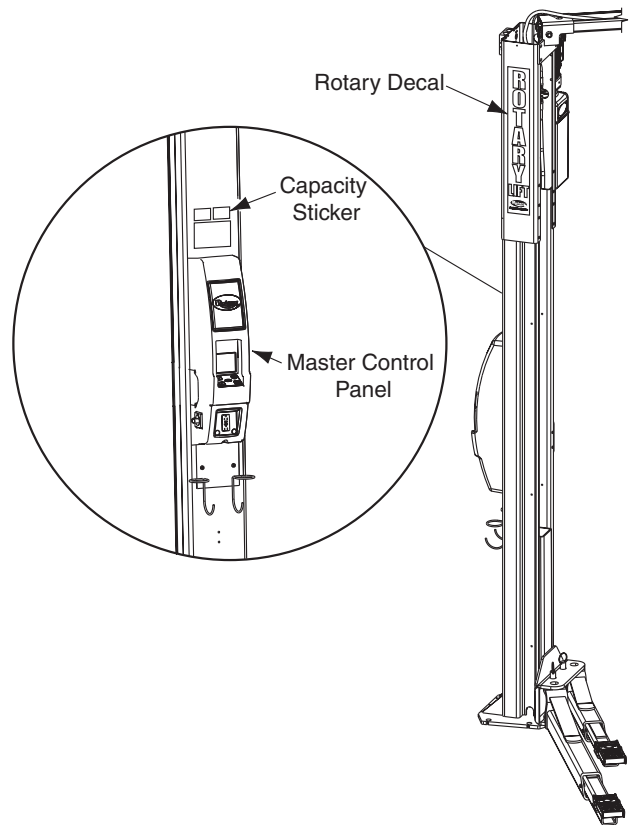

Fig. 26
19. Rotary Decal Location: Clean area where decals are to be placed. Remove backing from decals. Position and apply on approach sides of each column extension as indicated, Fig. 26, and press flat.
20. Capacity Sticker: Place capacity sticker above master control panel as shown in Fig. 26.